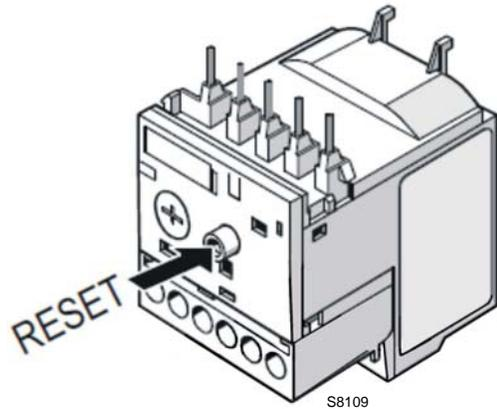

Fig. 33
- To reset, in the case of an intervention of the thermal relay, press the button "RESET" (Fig. 33).